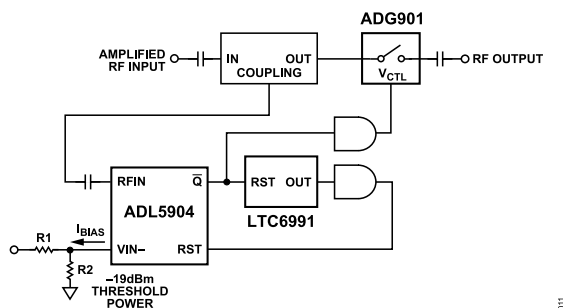

Figure 11. CN0521 Overpower Protection Circuit
The ADL5904 provides a resistor-programmable detection threshold, which compares the voltage from an internal envelope detector with a user-defined input voltage. When the voltage from the envelope detector exceeds the user-defined threshold voltage at the  $V_{IN-}$  pin, an internal comparator captures and latches the event to a set/reset (SR) flip-flop. Figure 11 shows the overpower protection circuitry for the CN0521.